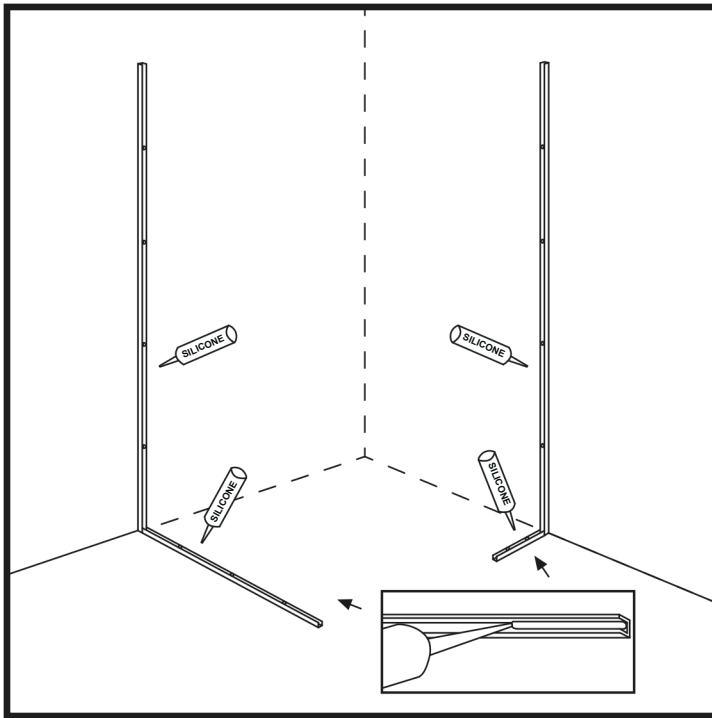

Figure 5
16. Fill the U-profiles on the wall and floor with an even silicone strip. (Figure 5)